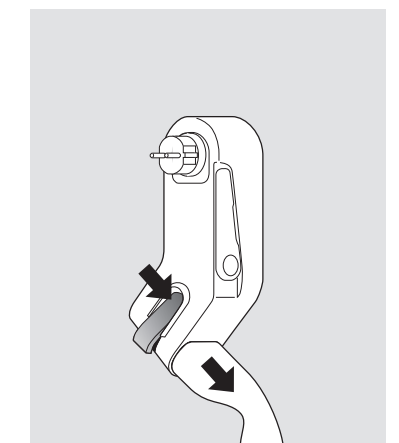

Fig. 3: Unlocking the type 2 outlet
- Unplug the Mobility Dock (A) from the wall socket
- Unlock (D) the wall support (E) and bring it into the starting position
- If necessary, unlock the charging plug with the orange lever (B) and unplug it (see fig. 3)